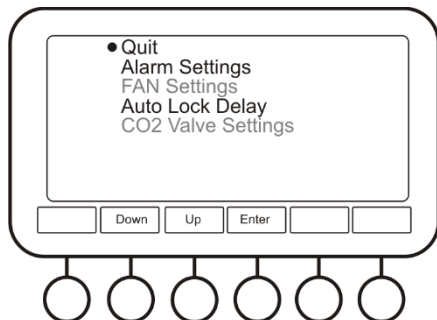

Fig. 7. Settings menu
4.9.3.2 **Settings** (fig. 7). User can access the **Alarm Settings** and **Auto Lock Delay** options.